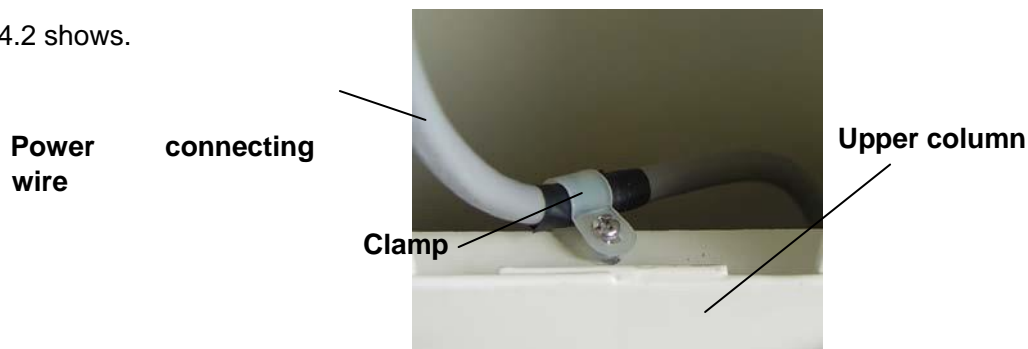
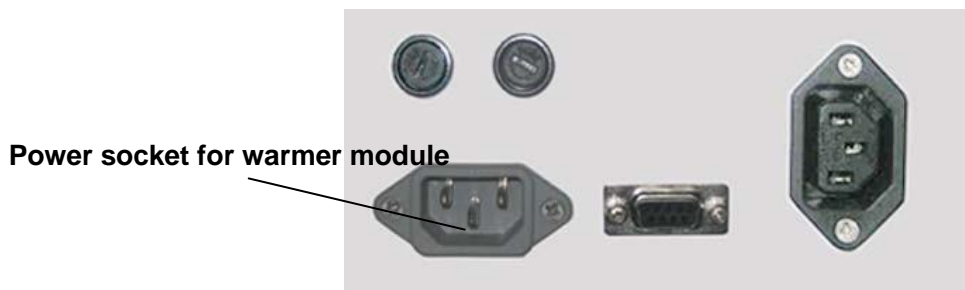

FIGURE 2.2
FIGURE 4.2
④ Insert the upper column into the stand column, and tighten it with the previous unscrewed bolt M8X20 and washer $\Phi 8$; insert the power cord of warmer module into the socket in figure 2.2 long with the path inside the upper column. Then fix the clamp on the power connecting wire to the upper column with bolts as the following figure 4.2 shows.